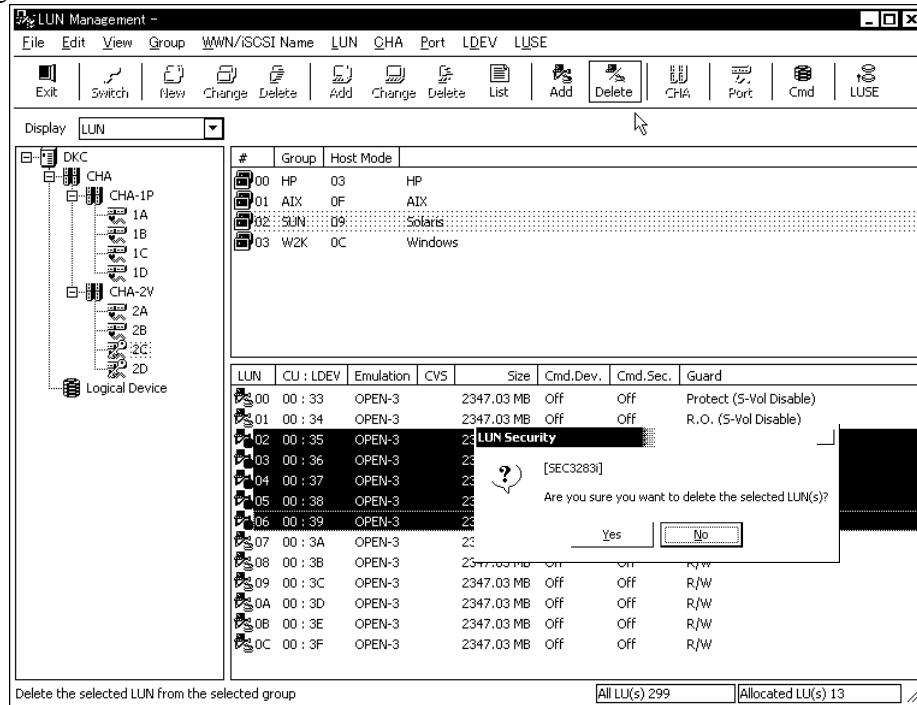

Figure 5.2.1 Main Window
- ① Select (CL) a LUN from the upper right list.
- ② Select (DR) [Delete] from the [LUN] menu in the Main window (Figure 5.2.1).
- ③ Since a message asking for a confirmation is displayed, select (CL) the [Yes] button.
- ④ Information on the LUN that has been selected from the lower right list is deleted.